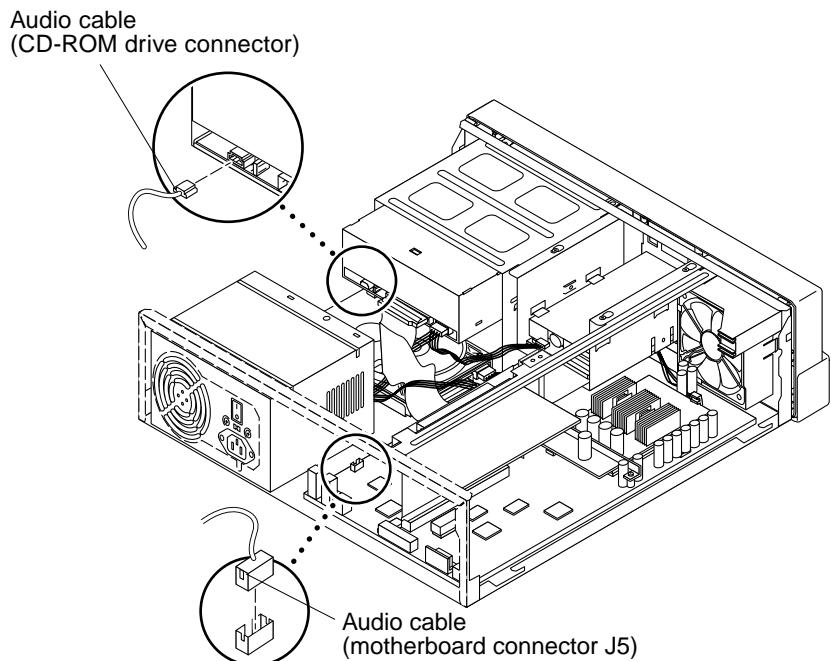

FIGURE 6-5 Removing and Replacing the Audio Cable
- a. Remove the audio cable assembly connectors from the following (FIGURE 6-5):
1. Replace the audio cable assembly as follows (FIGURE 6-5):